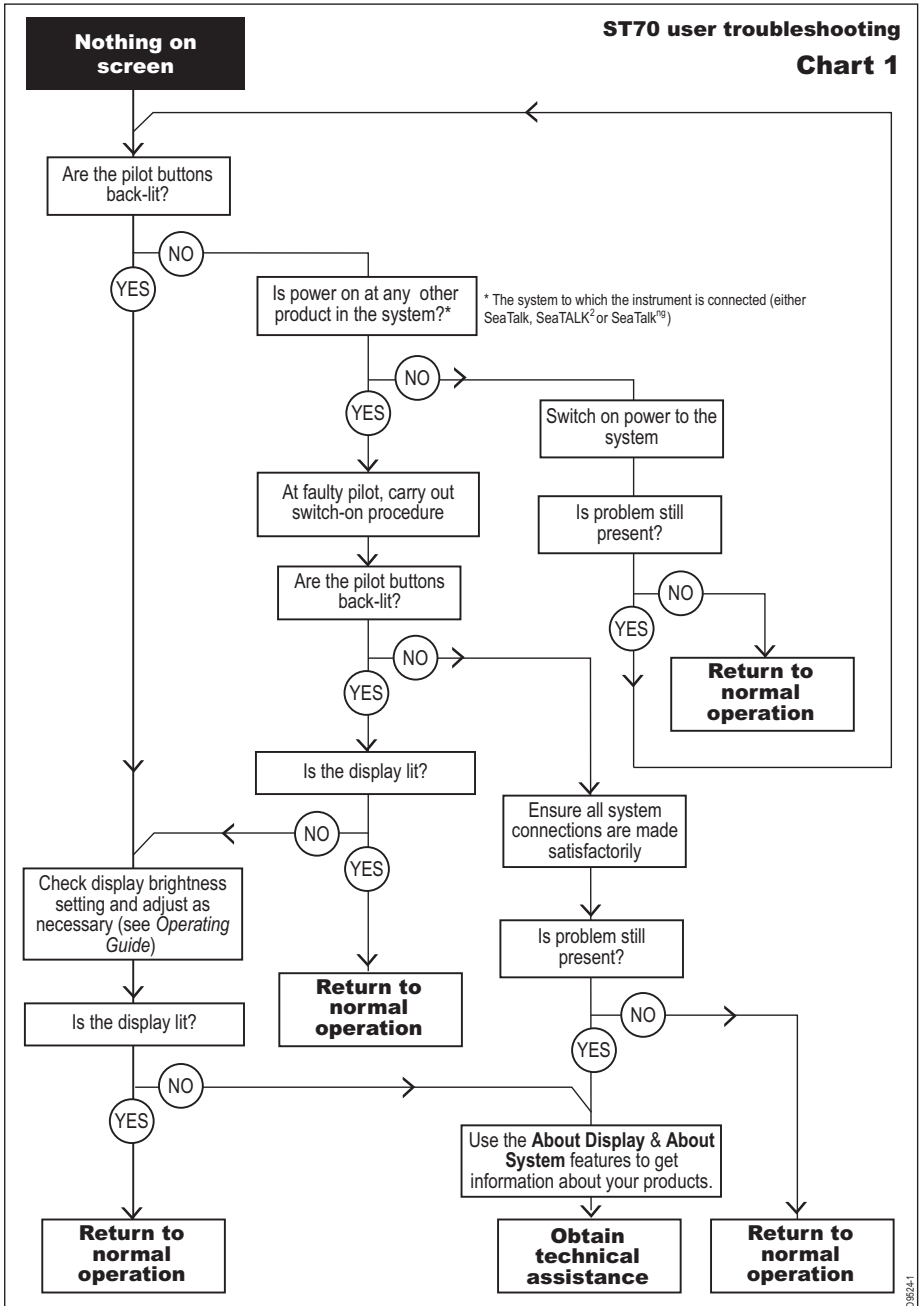

Figure 4-1 ST70 troubleshooting – Chart 1
- Nothing on the controller screen – refer to *Figure 4-1, ST70 troubleshooting – Chart 1*.